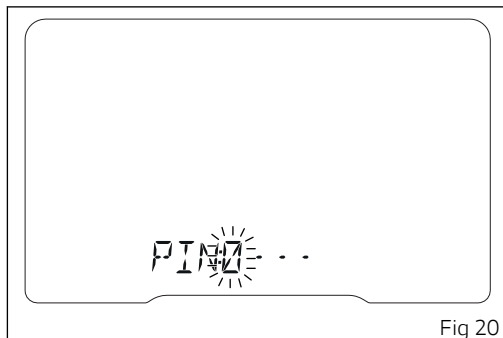

Fig 20
- if the PIN CODE function is active, the PIN CODE function page (Fig 20) is displayed, allowing the rider to enter the override code (see "Restoring motorcycle operation via the PIN CODE" page 183).